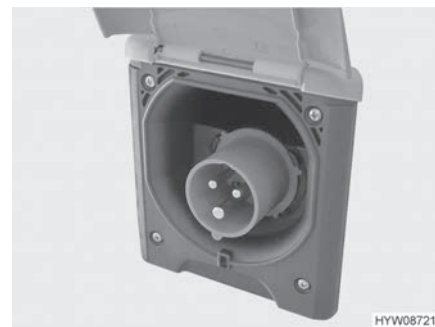

Fig. 52 230 V connection on the vehicle (CEE socket outlet)
- Open the cover of the 230 V connection on the vehicle (Fig. 52) and insert the plug connector. Ensure that the detent of the spring-mounted pivoting cover is engaged in position.